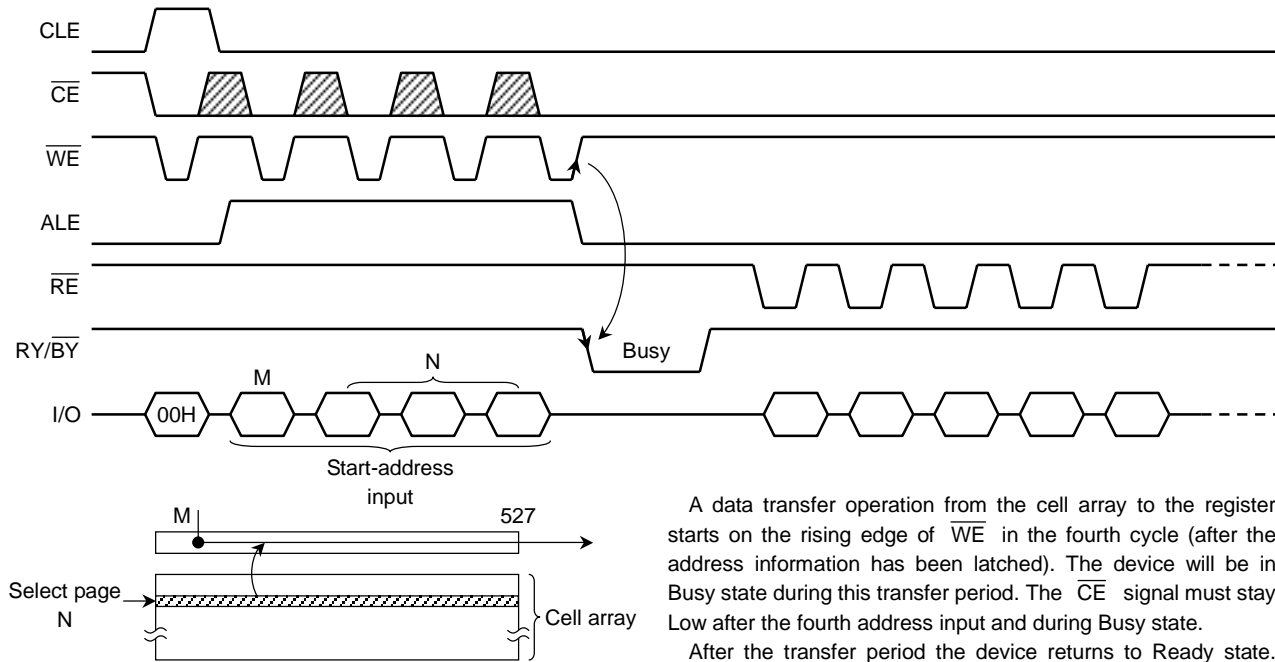

Figure 3. Read mode (1) operation
**Read Mode (1)**
Read mode (1) is set when a “00H” command is issued to the Command register. Refer to Figure 3 below for timing details and the block diagram.